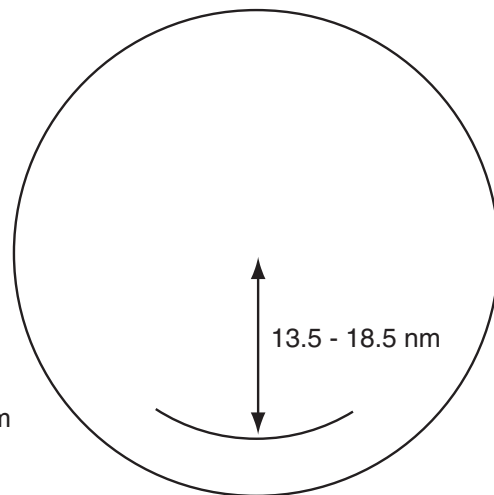

Fig.2
2. Adjust PM GAIN ADJ so that outer arc just disappears (Fig.2). The setting range is 0 to 255.